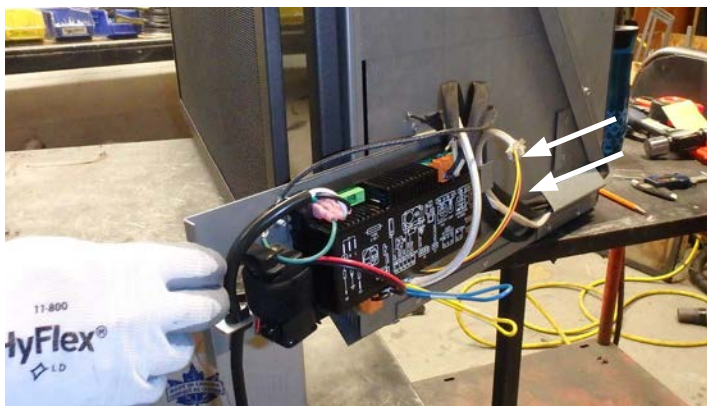

Figure 20.6.01:
4. Slide the control board outward. Do not over-extend the wires. See **Figure 20.6.01**.